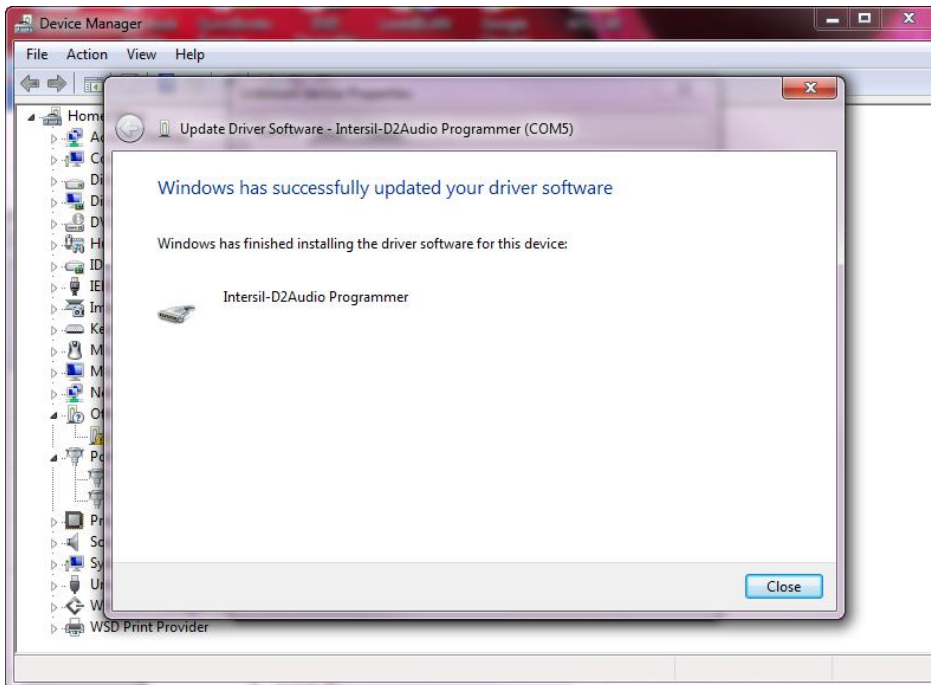

Figure B8: Successful Installation Window
17. The successful installation window should appear as shown below in Figure B8